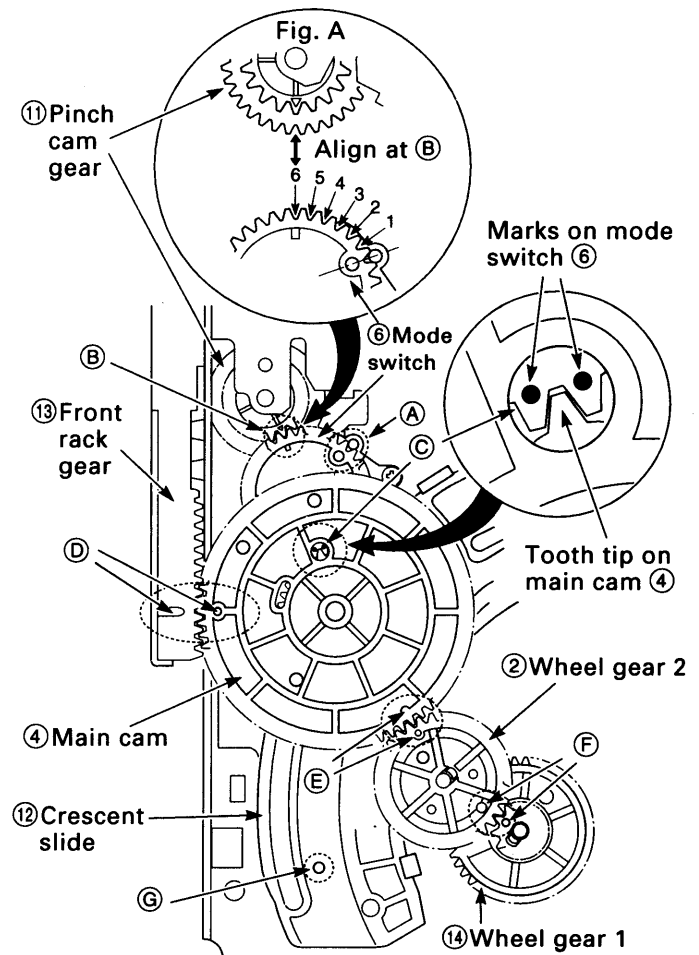
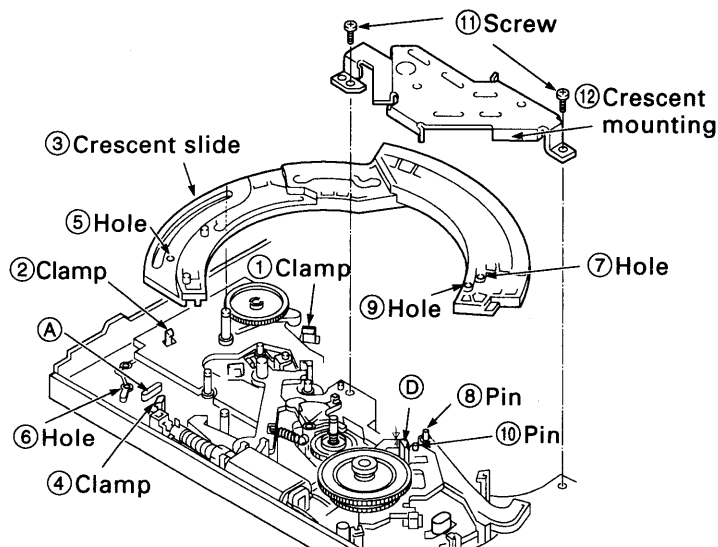
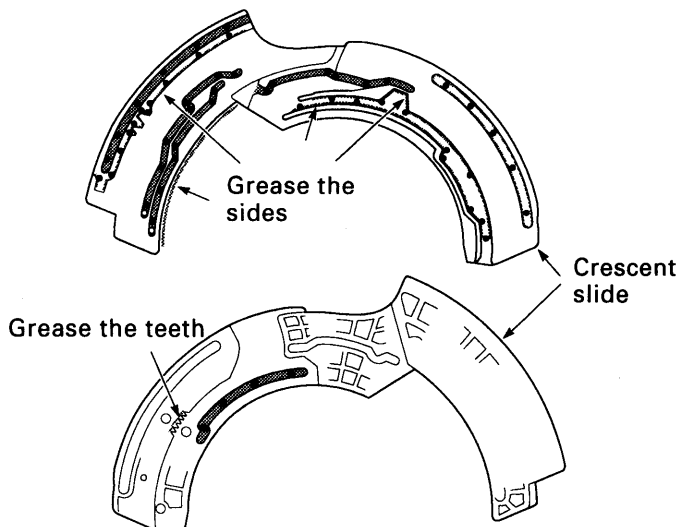

Fig.3-15-2
Fig.3-16-1
Fig.3-16-2
1. Apply grease (VHJ-0100) to the shafts ⑧, ⑨ and ⑩, to the teeth of the main cam ④, and to the all over the cam groove of main cam ④.
2. When fitting the mode switch ⑥, align it in (A)(B) order as shown in Fig.3-15-2. The alignment of the part (B) is shown in Fig. A. Position the teeth of the mode switch ⑥ so that the sixth tooth space left of part (A) is aligned with the triangular mark on the pinch cam gear ⑪. After aligning part (B), refer to section 3-9-2 and check the positioning of the mode switch, the pinch cam gear and the pinch lift cam.
4. Align the hole in the crescent slide ⑫ with the hole in the mechanism chassis, as shown at point (G) in Fig.3-15-2 (refer to section 3-16 and see the holes ⑤ and ⑥ in Fig.3-16-1).
5. When fitting the main cam ④, position the mode switch ⑥ and the front rack gear ⑬ as shown at points (C) and (D) respectively in Fig.3-15-2.
6. When fitting the gear wheel 2 ②, position the main cam ④ and the wheel gear 1 ⑭ as shown at points (E) and (F) respectively in Fig.3-15-2.
(See Figs.3-16-1 and 3-16-2)
1. Apply grease (VHJ-0100) to the points A, B, C and D in Fig.3-16-1, and to the crescent slide ③ shown in Fig.3-16-2.